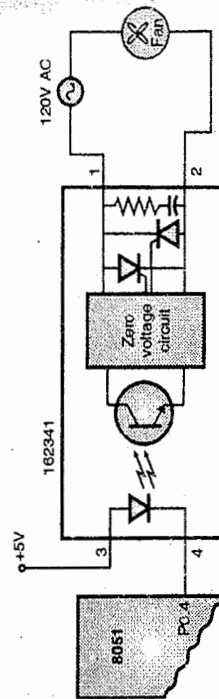

Fig. 3.6.1 : Internal structure of Solid State Relay (SSR) and its interfacing with 8051
- Fig. 3.6.1 illustrates the internal structure of a solid state relay and its interfacing with 8051